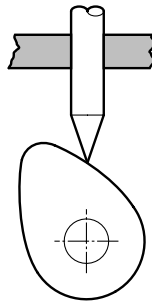

Fig. 8
- (ii) Cams are used to convert motion from one type to another. Fig. 8 shows a pear-shaped cam.
Add labels to Fig. 8 to show how the cam converts rotary to reciprocating motion.